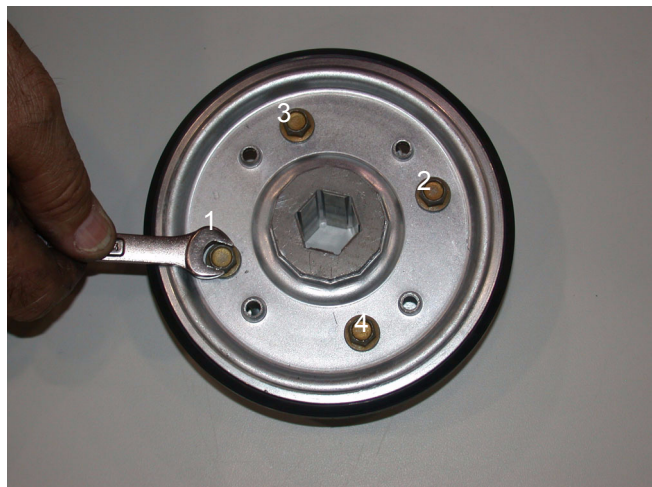

Figure 13.6
- 13.6. When reassembling the rubber wheel tighten the screw in an alternating order. See Figure 13.6.